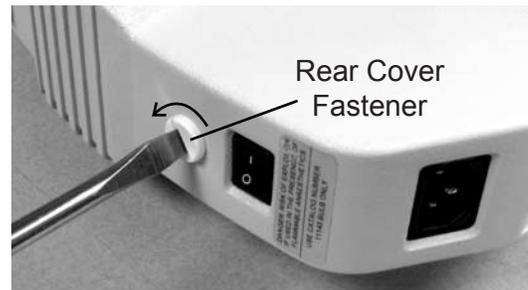

Figure IS-17 Rear Cover Fastener
1. Using a flat head screwdriver, turn the Rear Cover Fastener a quarter turn counter-clockwise to remove the Rear Cover to access the Electrical Assembly. Refer to Figures IS-17 and IS-18.
7. Install the Rear Cover and secure it with the Rear Cover Fastener. Refer to Figure IS -17.